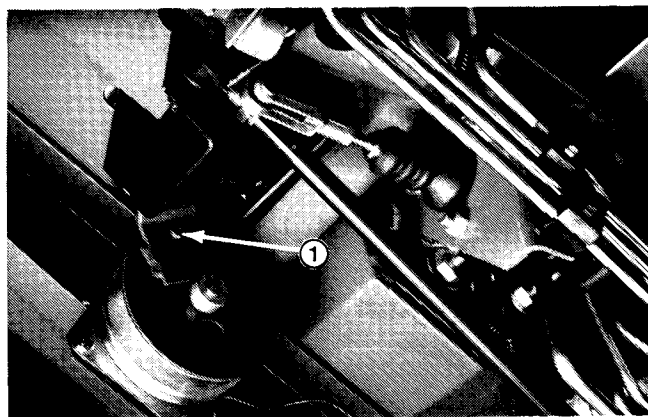

Figure 20
4. If force required is less than 35 lb. or more than 45 lb., loosen jam nut and turn setscrew one turn and check force again – turn counterclockwise for less force and clockwise for more force (Fig. 20). After correct force is achieved, hold setscrew in position and tighten jam nut.